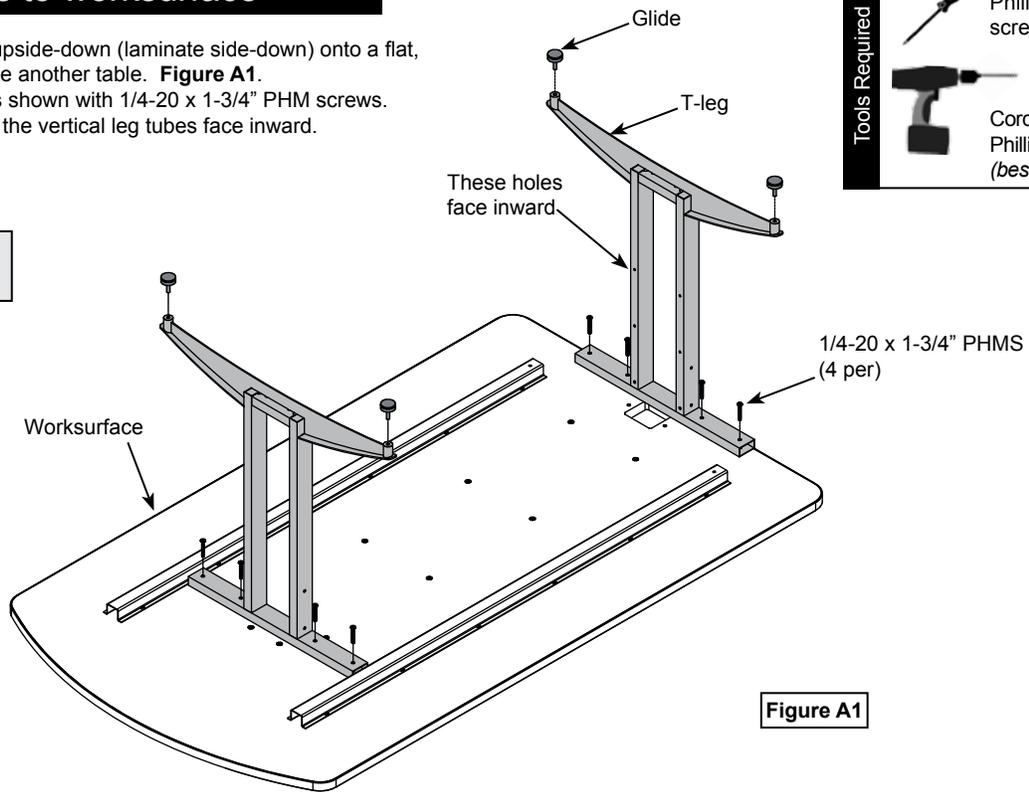

Figure A1
1. Place the worksurface upside-down (laminated side-down) onto a flat, non-abrasive surface like another table. **Figure A1**.